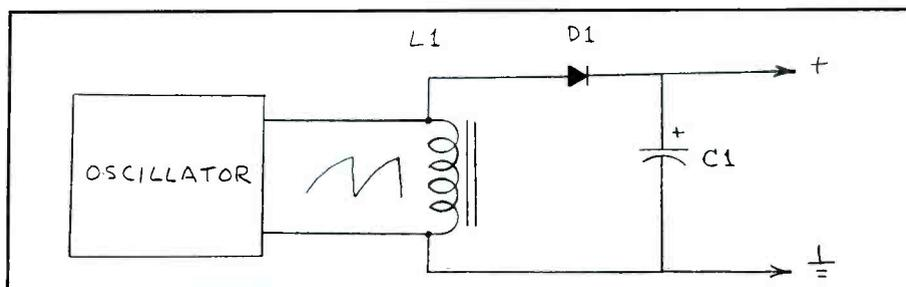

Fig. 2. Details for a basic dc-to-dc converter power-supply circuit that uses a choke (L1).
**Fig. 2.** The RTC52 measures just  $3\frac{1}{2} \times 3\frac{1}{4}$ -inch and operates from a single 5-volt supply. Expansion boards stack vertically on the processor board. Like the BCC52, the RTC52 can be programmed in BASIC.
One early version of a transformerless high-voltage supply is known as the ringing-choke power supply. The idea behind this circuit is to supply a pulsating flow of current to a choke coil. The pulses can have a slow rise time, but they should have a fast fall time. A capacitor (C1) is connected across the coil's terminals through a diode (D1), as shown in Fig. 2. Each time the current momentarily ceases to flow, a voltage spike passes through the diode and is stored in the capacitor. The diode keeps the capacitor from discharging through the coil. The output from the circuit is a direct current with a ripple value determined by the size of C1.